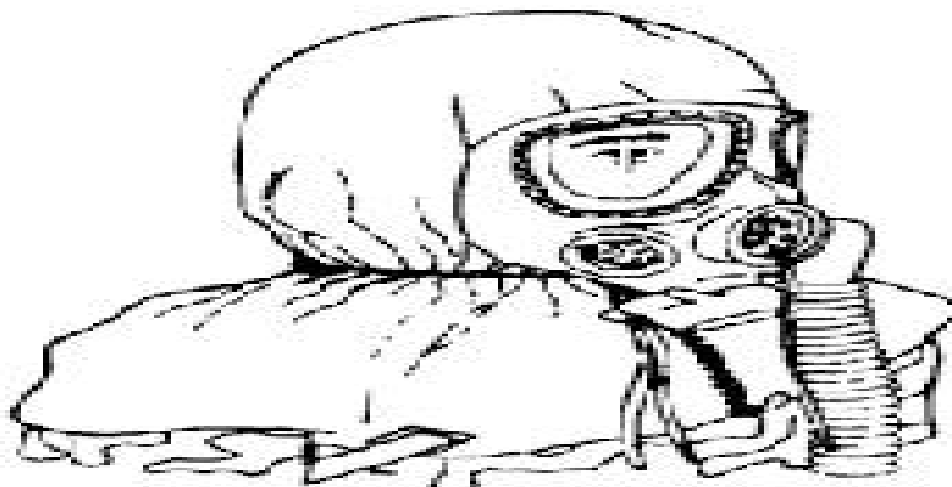

Figure E-74. Hood completely fastened.
- e. Fasten the underarm straps, adjusting as needed to fit you (figure E-74).